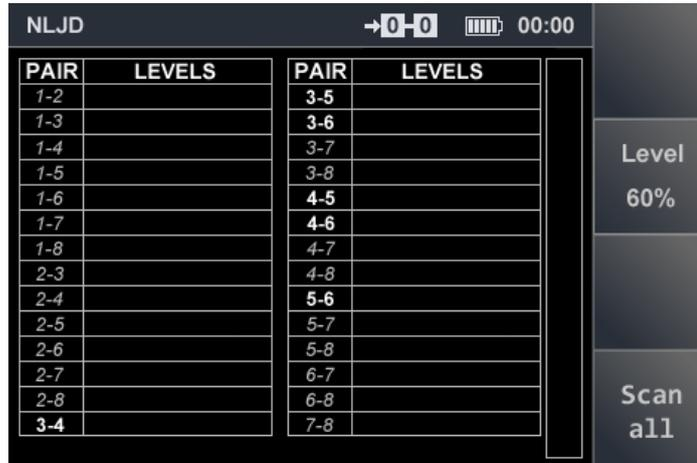

Fig.54
6. Press again "FUNC" and enter to NLJD main menu. The screen shown in Fig.54.